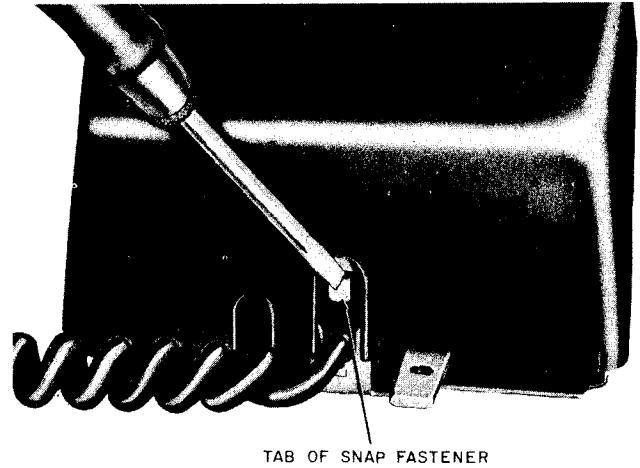
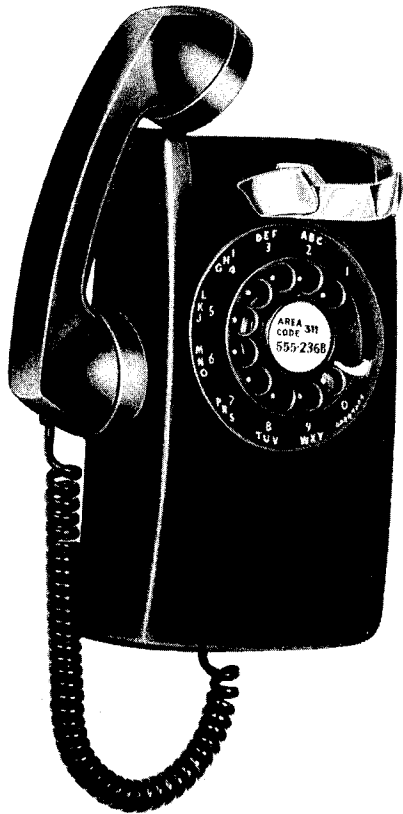
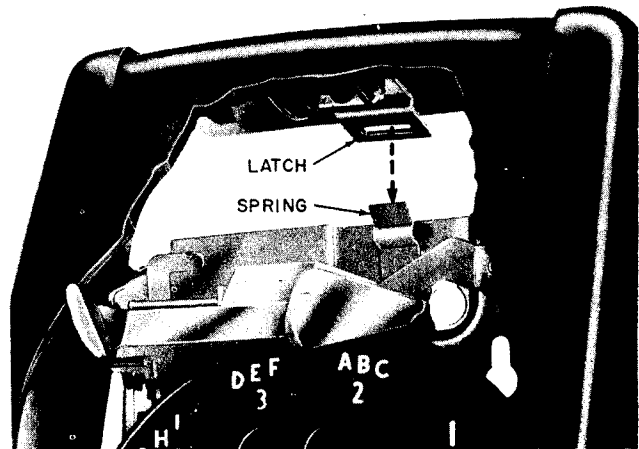

Fig. 10 — Wall Telephone Set Housing Removal
Fig. 9 — 554- or 556-Type Telephone Set, Handset Rest Position
Fig. 12 — Replacing Wall Telephone Set Housing
- 554- and 556-type sets — designed as handset hanger (Fig. 9).
(1) Removal
- Push inward on tab of snap fastener (Fig. 10) located in handset cord slot.
- Lift lower part of housing outward and upward, releasing snap fastener, and disengaging latch opening assembly (Fig. 10 and 11).
(2) Replacement
- Slip housing over handset hook and dial and engage latch spring assembly (Fig. 12).